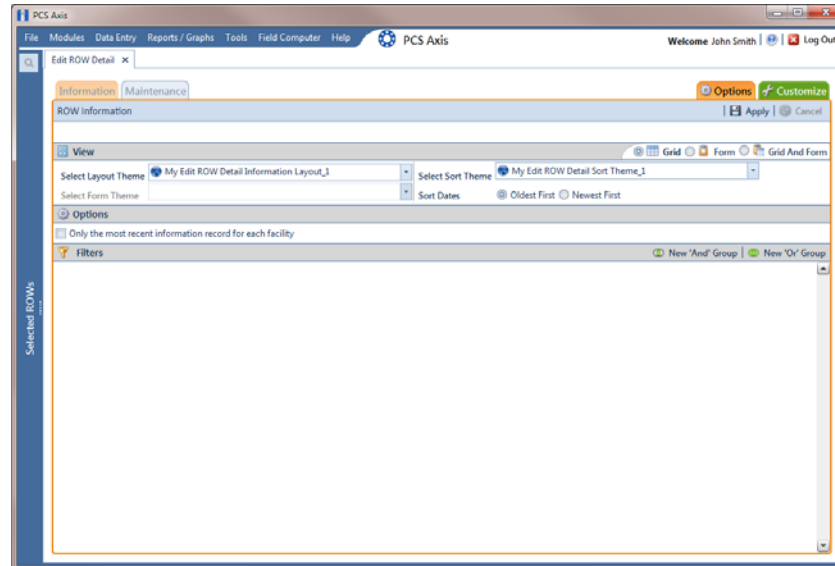

Figure 4-39. Options
- a Click the **Options** tab to open the options page (Figure 4-39, page 165).